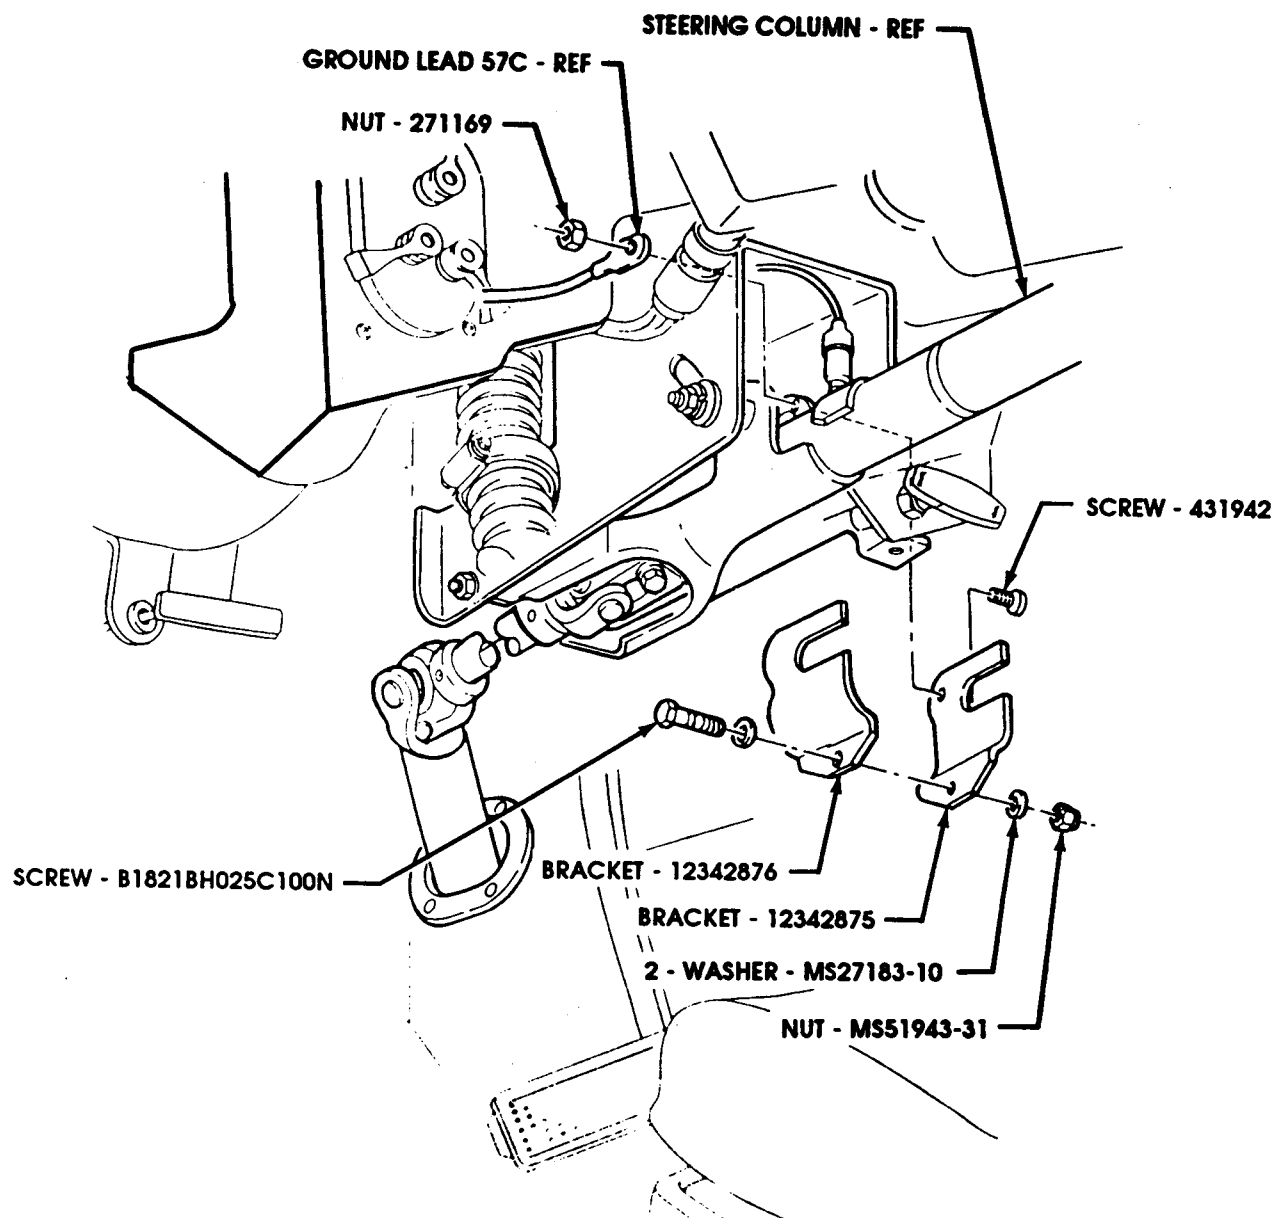

FIGURE 3
- (2) Secure ground lead 57C and 12342875 bracket to steering column with 431942 screw and 271169 nut as shown in figure 3. Do not tighten nut.
- (3) Secure 12342876 bracket to bracket (12342875) and steering column with B1821BH025C100N screw, two MS27183-10 washers, and MS51943-31 nut as shown in figure 3. Tighten nut to 10 lb-ft (14 N·m).
- (4) Tighten nut (271169) installed in step "2" as shown in figure 3.